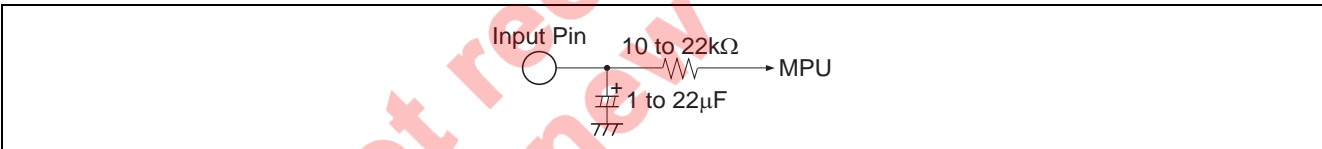

Figure 2 Interface for Reduction of Pop Noise
3. Reducing pop noise is so much better for 10 k Ω to 22 k Ω resistor and 1 μ F to 22 μ F capacitor shown figure 2.